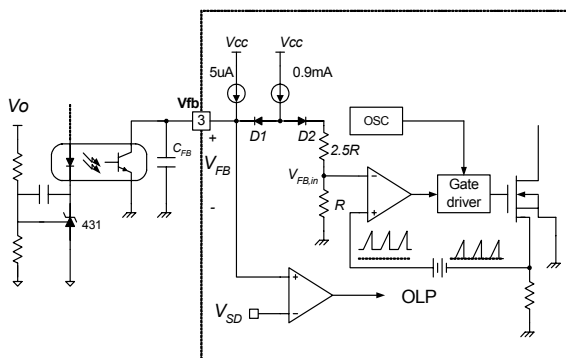

Figure 5. Pulse Width Modulation (PWM) Circuit
**2. Feedback Control :** The FSDx0265RN employs current mode control, as shown in Figure 5. An opto-coupler (such as the H11A817A) and shunt regulator (such as the KA431) are typically used to implement the feedback network. Comparing the feedback voltage with the voltage across the Rsense resistor plus an offset voltage makes it possible to control the switching duty cycle. When the KA431 reference pin voltage exceeds the internal reference voltage of 2.5V, the optocoupler LED current increases, the feedback voltage Vfb is pulled down and it reduces the duty cycle. This event typically happens when the input voltage is increased or the output load is decreased.
**4.4 Over Voltage Protection (OVP) :** In the event of a malfunction in the secondary side feedback circuit, or an open feedback loop caused by a soldering defect, the current through the opto-coupler transistor becomes almost zero (refer to Figure 5). Then, VFB climbs up in a similar manner to the over load situation, forcing the preset maximum current to be supplied to the SMPS until the over load protection is activated. Because excess energy is provided to the output, the output voltage may exceed the rated voltage before the over load protection is activated, resulting in the breakdown of the devices in the secondary side. In order to prevent this situation, an over voltage protection (OVP) circuit is employed. In general, Vcc is proportional to the output voltage and the FPS uses Vcc instead of directly monitoring the output voltage. If VCC exceeds 19V, OVP circuit is activated resulting in termination of the switching operation. In order to avoid undesired activation of OVP during normal operation, Vcc should be properly designed to be below 19V.